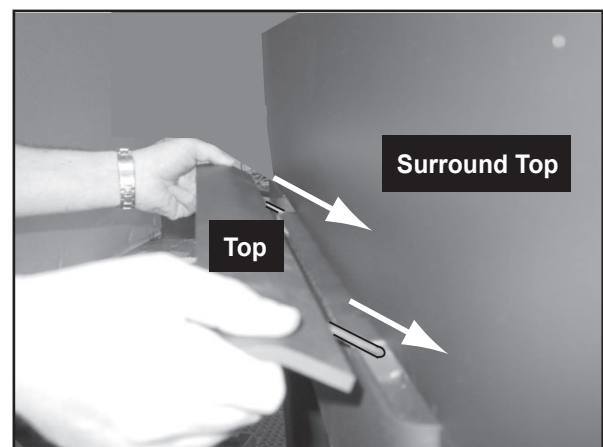

Figure 19.6
1. Push the top into place by aligning the pins into the slots (**Figure 19.6**).